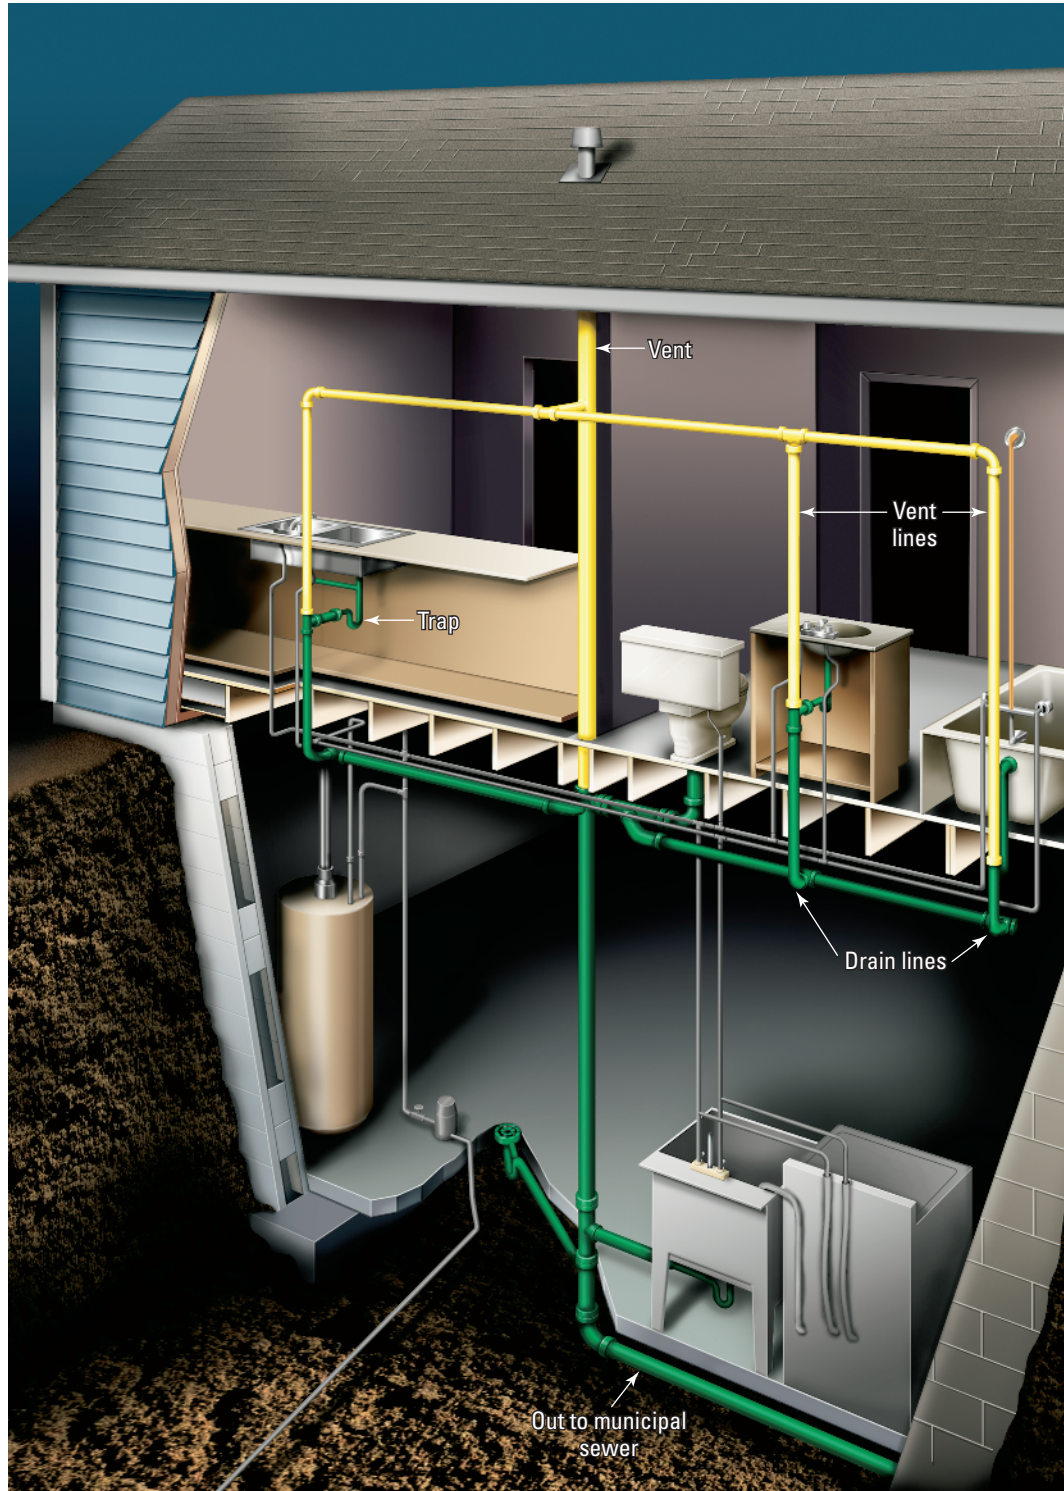

Figure 1-3: The DWV system.
Getting rid of used or waste water is achieved through your home's DWV system, which stands for drain, waste, and vent. The drains (D) are the pieces that hold and then carry the waste water to the main drain lines (W). Without a constant air supply, a vacuum would build up in the drain lines, eventually stopping the water from flowing; To prevent this, each DWV system requires adequate and proper venting (V). The drain pipes use gravity to carry waste and waste water away from fixtures, drains, and appliances. The waste water is carried out of the house through the main drain line to a municipal sewer system or a septic tank (if you have a private well). Figure 1-3 shows the system in detail.